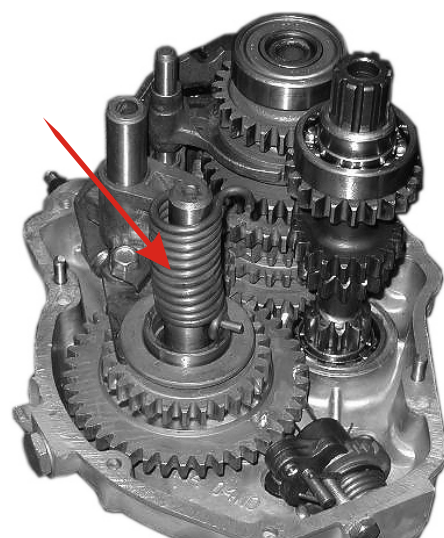

Fig. 54
- Insert the spring of the kick-starter shaft (Fig. 54)